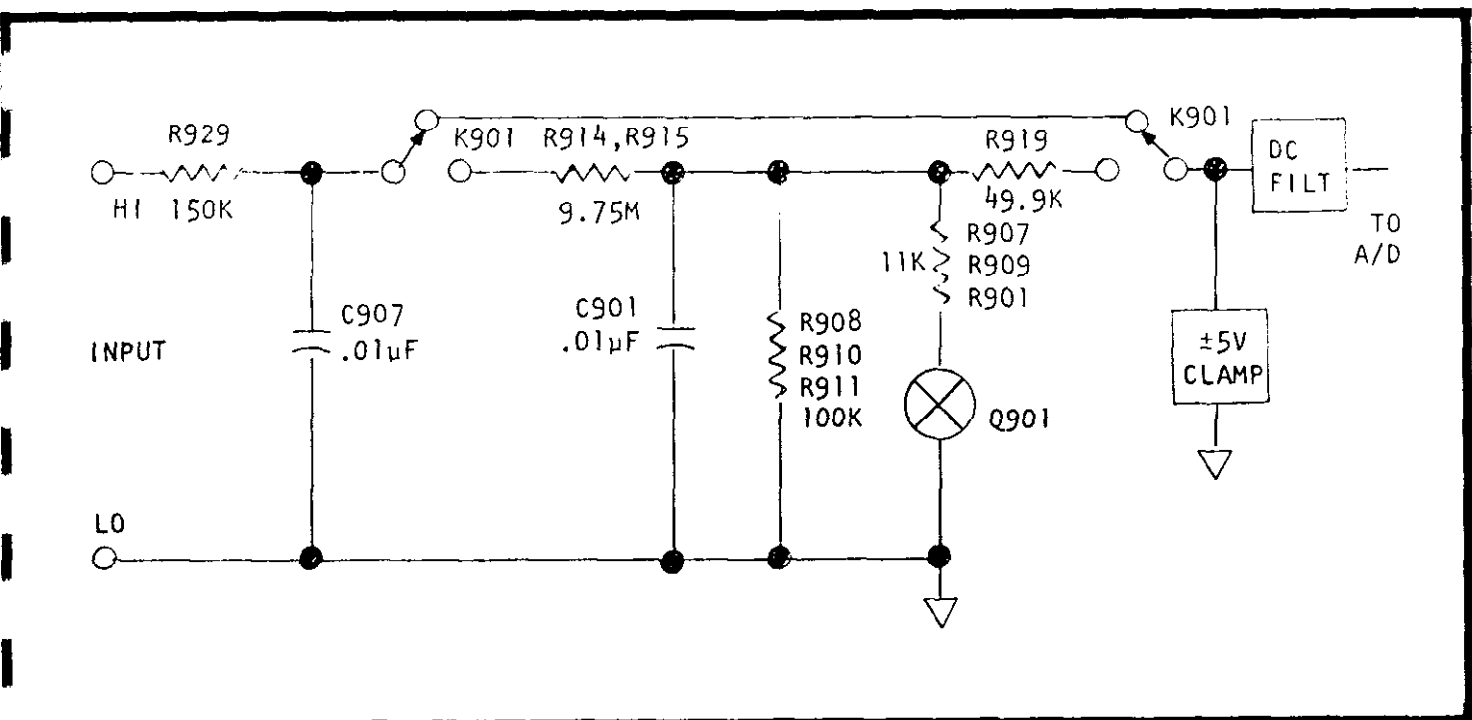

FIGURE 23. DC Volts Input Circuit.
2. There is no attenuation on the 300 m V and 3 V ranges. Relay K901 (Figure 23) is shown in this position. The attenuator is bypassed which allows the input resistance of greater than 10^9 ohms.